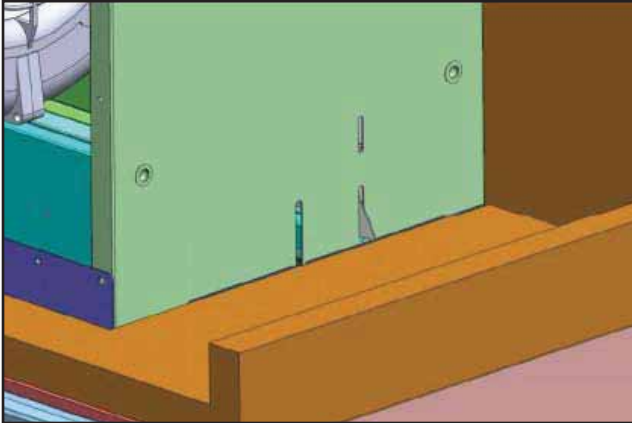

Fig.5
- 4) There are spring clips located on the left and right sides of the hood body which will temporarily hold the hood in place, Fig.5.